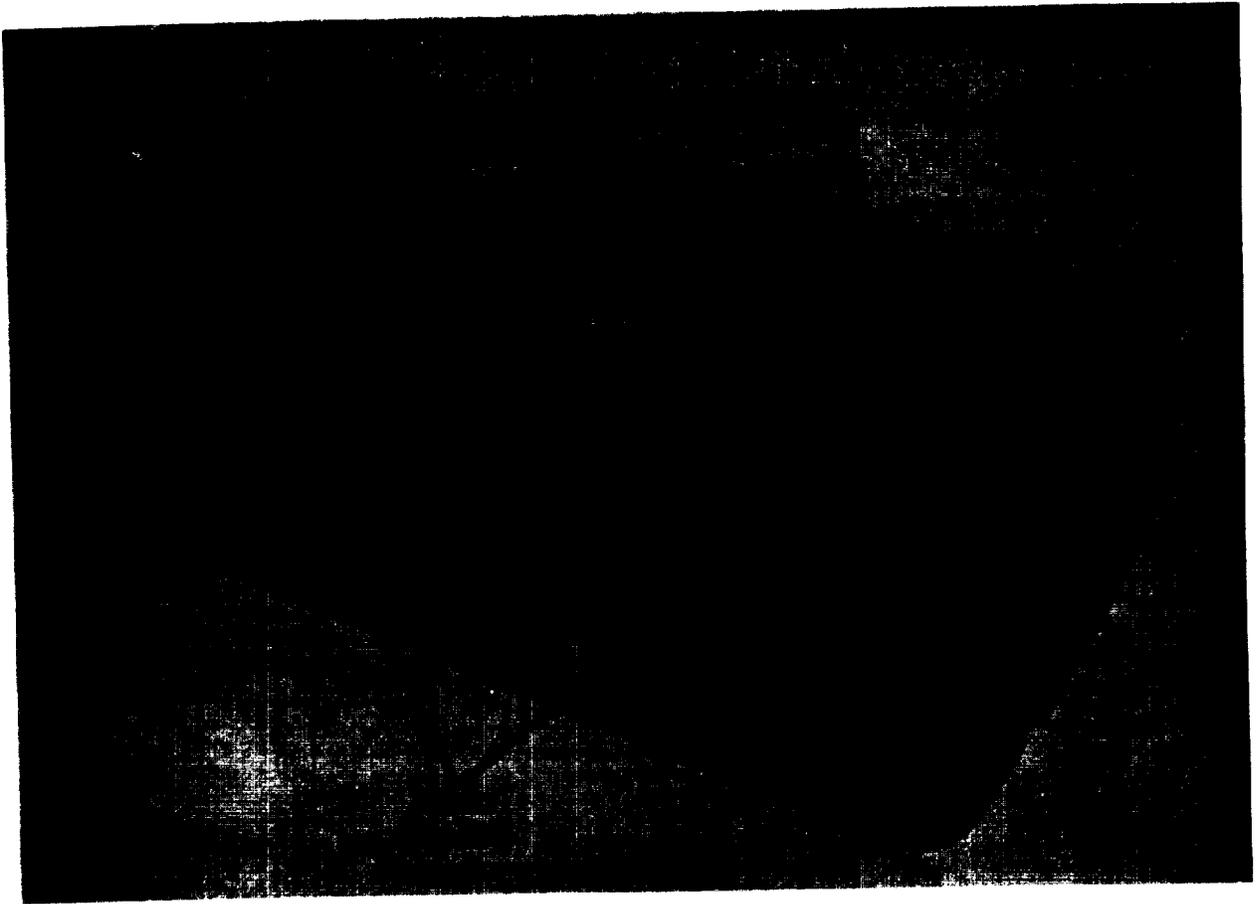

Figure 4-2. Radar chronograph accessories case.
c. Description of Radar Chronograph Accessories Case. The accessories for the chronograph are shipped and stored in a specially designed reusable plastic container (fig. 4-2). The two piece case, formed of high impact plastic, provides protection against water and